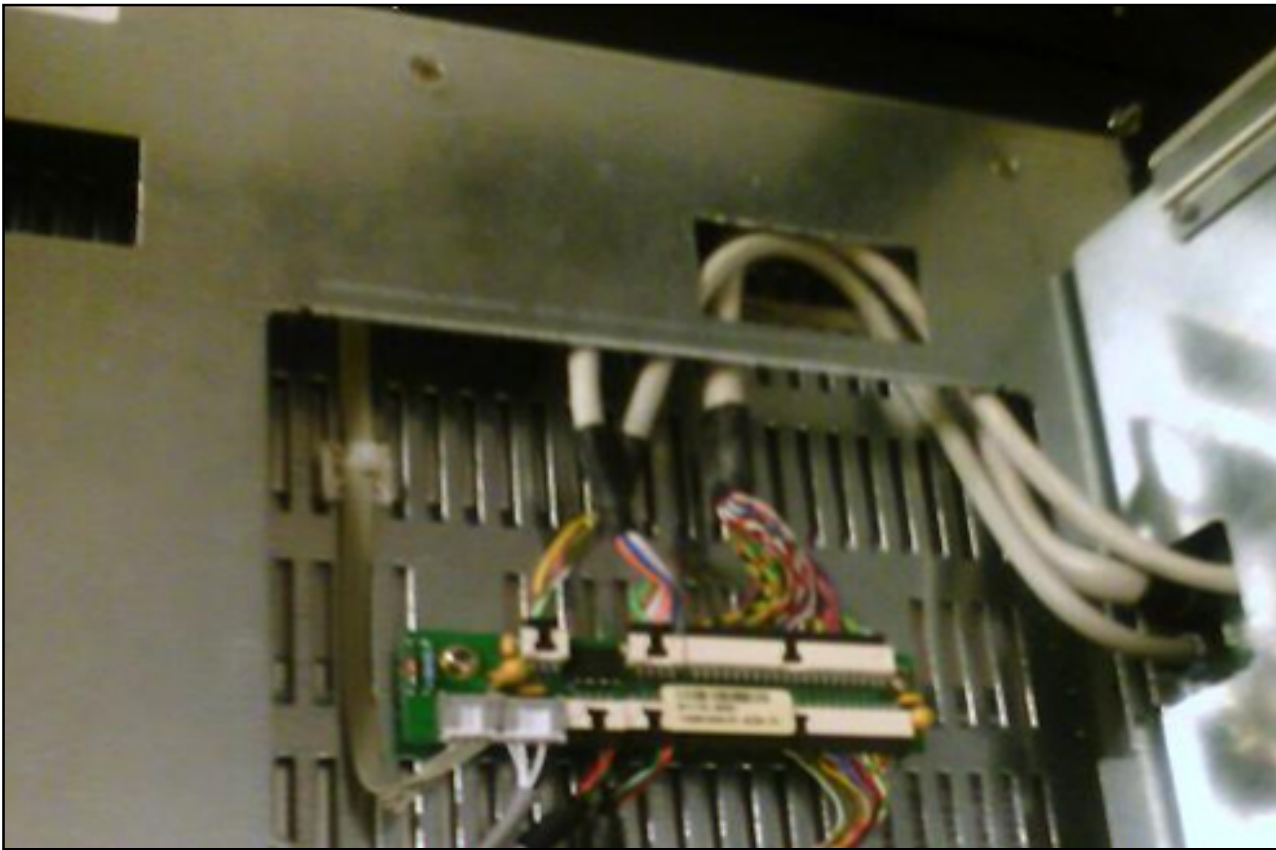
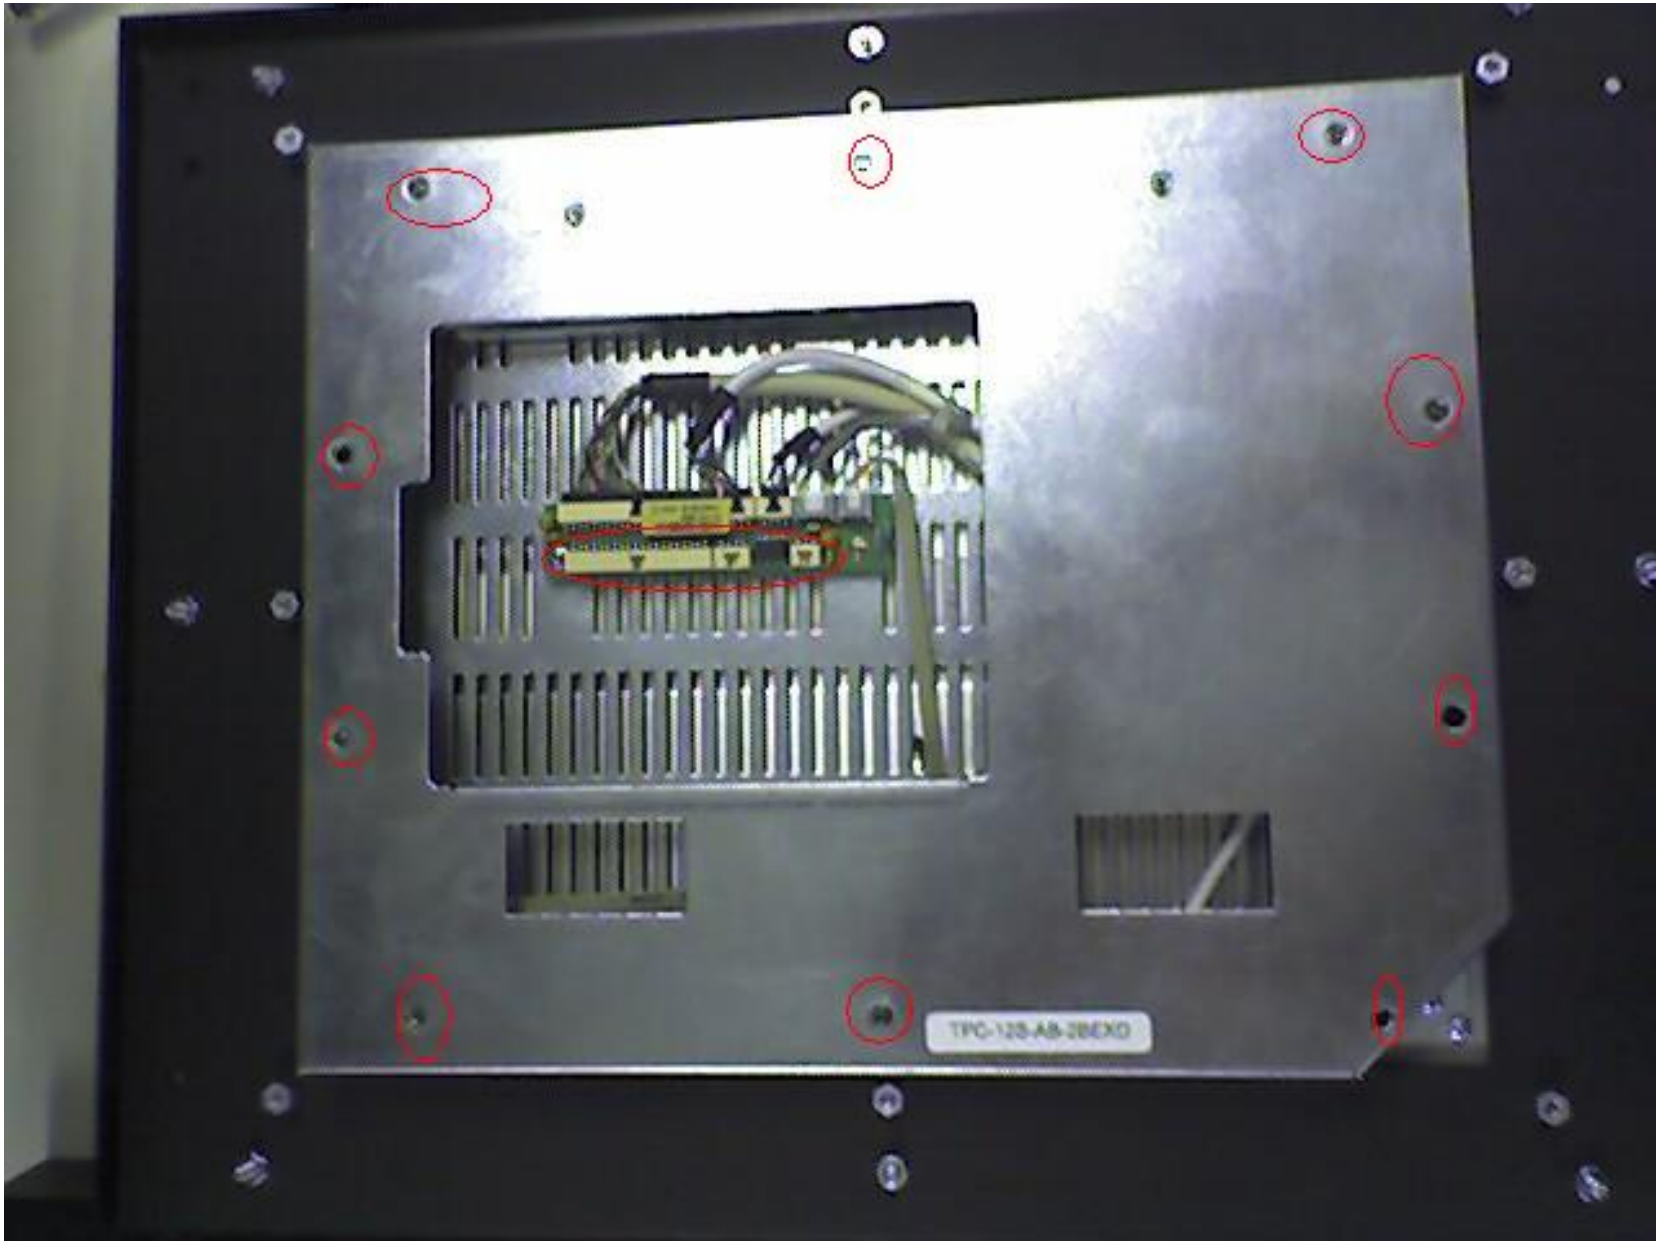

Figure 2: Bezel Removed Showing 3 Main Connector Wires
Figure 3: Perimeter Screws Location
2. Remove each connector. There are two small connectors and one long one. In the following graphic (Figure 3 below), the connector cables shown in Figure 2 have been removed.